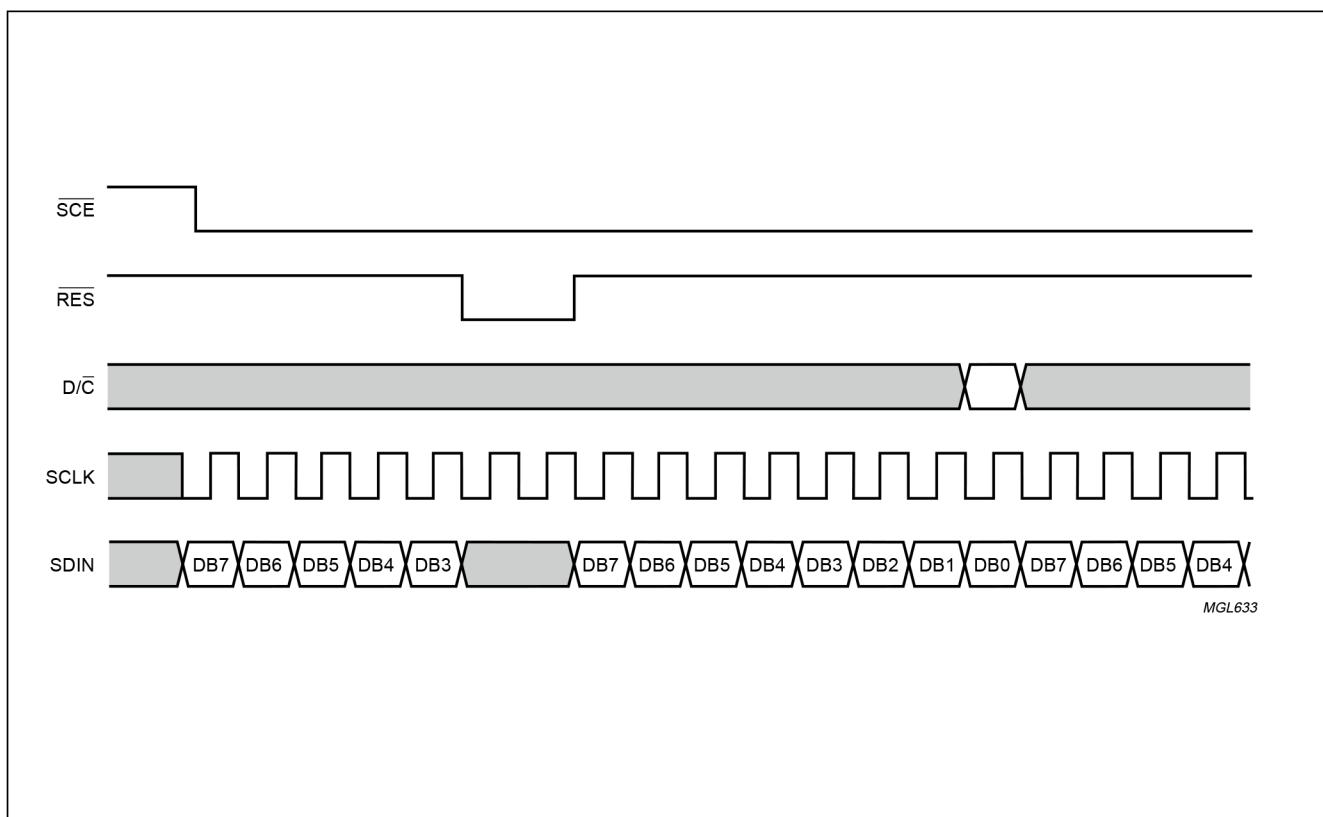

Figure 13: Serial bus reset function (**RES**).
- A reset pulse with RES interrupts the transmission. No data is written into the RAM. The registers are cleared. If $\overline{\text{SCE}}$ is LOW after the positive edge of RES, the serial interface is ready to receive bit 7 of a command/data byte (see Fig.13).